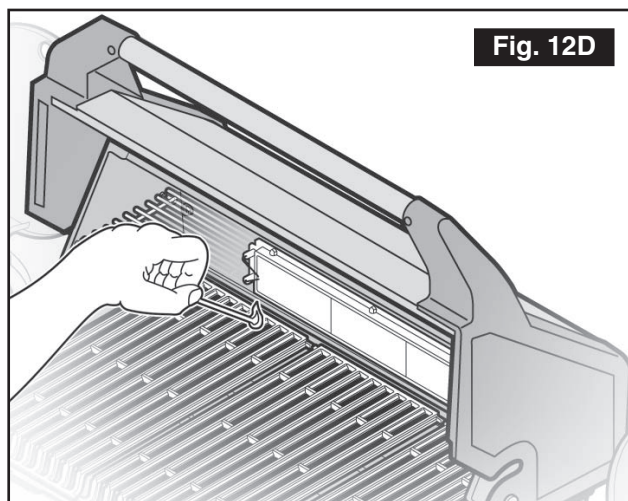

Fig. 12D
2. Place an ignited lighter or lit match near the ports, approximately 1/2" (1.25 cm) from burner (see Figure 12D).